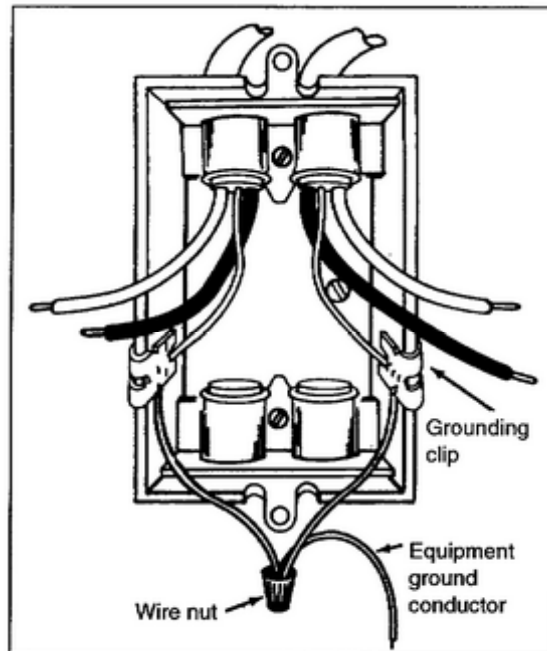

Figure 2-12. Outlet box
11. The ground conductors inside the outlet box in Figure 2-12 are properly installed?